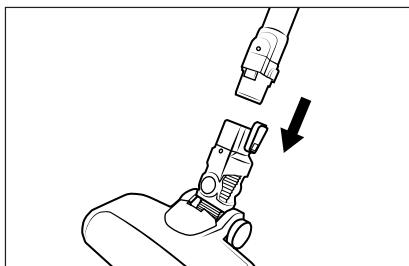

Fig. 2
- Push the suction pipe 23 into the floor brush 21 until it audibly clicks into place (see Fig. 2).